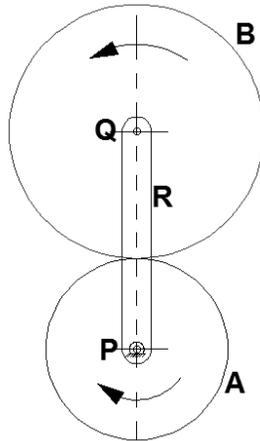

Figure: 3
- b) A simple Epicyclic gear train is shown in the figure 3. Deduce, from fundamentals, the expression for velocity ratio of the gear train. [5+5]